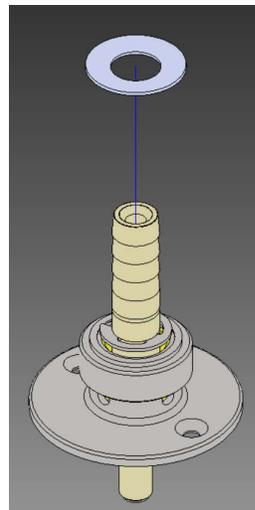

FIGURE F. 7. – SPRING WASHER REMOVAL
7. Remove the spring washer (see Figure F.7.)